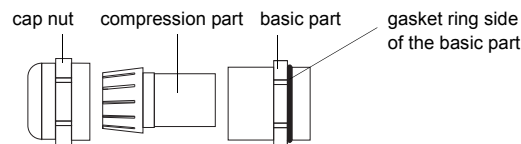

Fig. 6.4: Cable gland
- Open the cable gland of the transducer cable (see Fig. 6.4)
- Open the cable gland of the transducer cable (see Fig. 6.4).